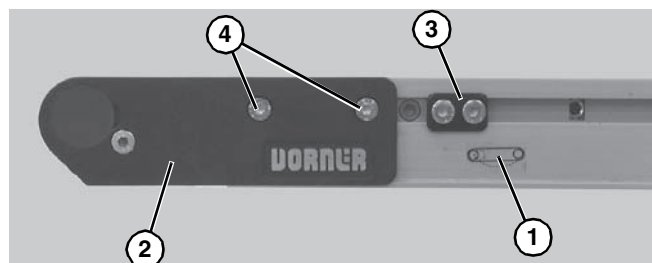

Figure 5
2. On tension end of the conveyor, identified with  a label (**Figure 5, item 1**), push in head plate assembly (**Figure 5, item 2**): On both sides of conveyor, loosen and move cam tracking assemblies (**Figure 5, item 3**) (if equipped) away from head plates, then loosen fastening screws (**Figure 5, item 4**) and push head plate assembly inward.
- If equipped with cam tracking assemblies (**Figure 5, item 3**), reposition and adjust belt tracking. Refer to “Conveyor Belt Tracking” on page 14.